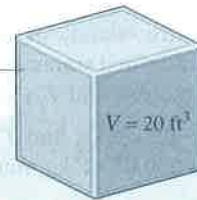

Fig. P3.60
3.60 As shown in Fig. P3.60, a rigid, closed tank having a volume of 20 ft^3 and filled with 75 lb of Refrigerant 134a is exposed to the sun. At 9:00 a.m., the refrigerant is at a pressure of 100 lbf/in.^2 . By 3:00 p.m., owing to solar radiation, the refrigerant is a saturated vapor at a pressure greater than 100 lbf/in.^2 . For the refrigerant, determine (a) the initial temperature, in $^\circ\text{F}$, (b) the final pressure, in lbf/in.^2 , and (c) the heat transfer, in Btu .